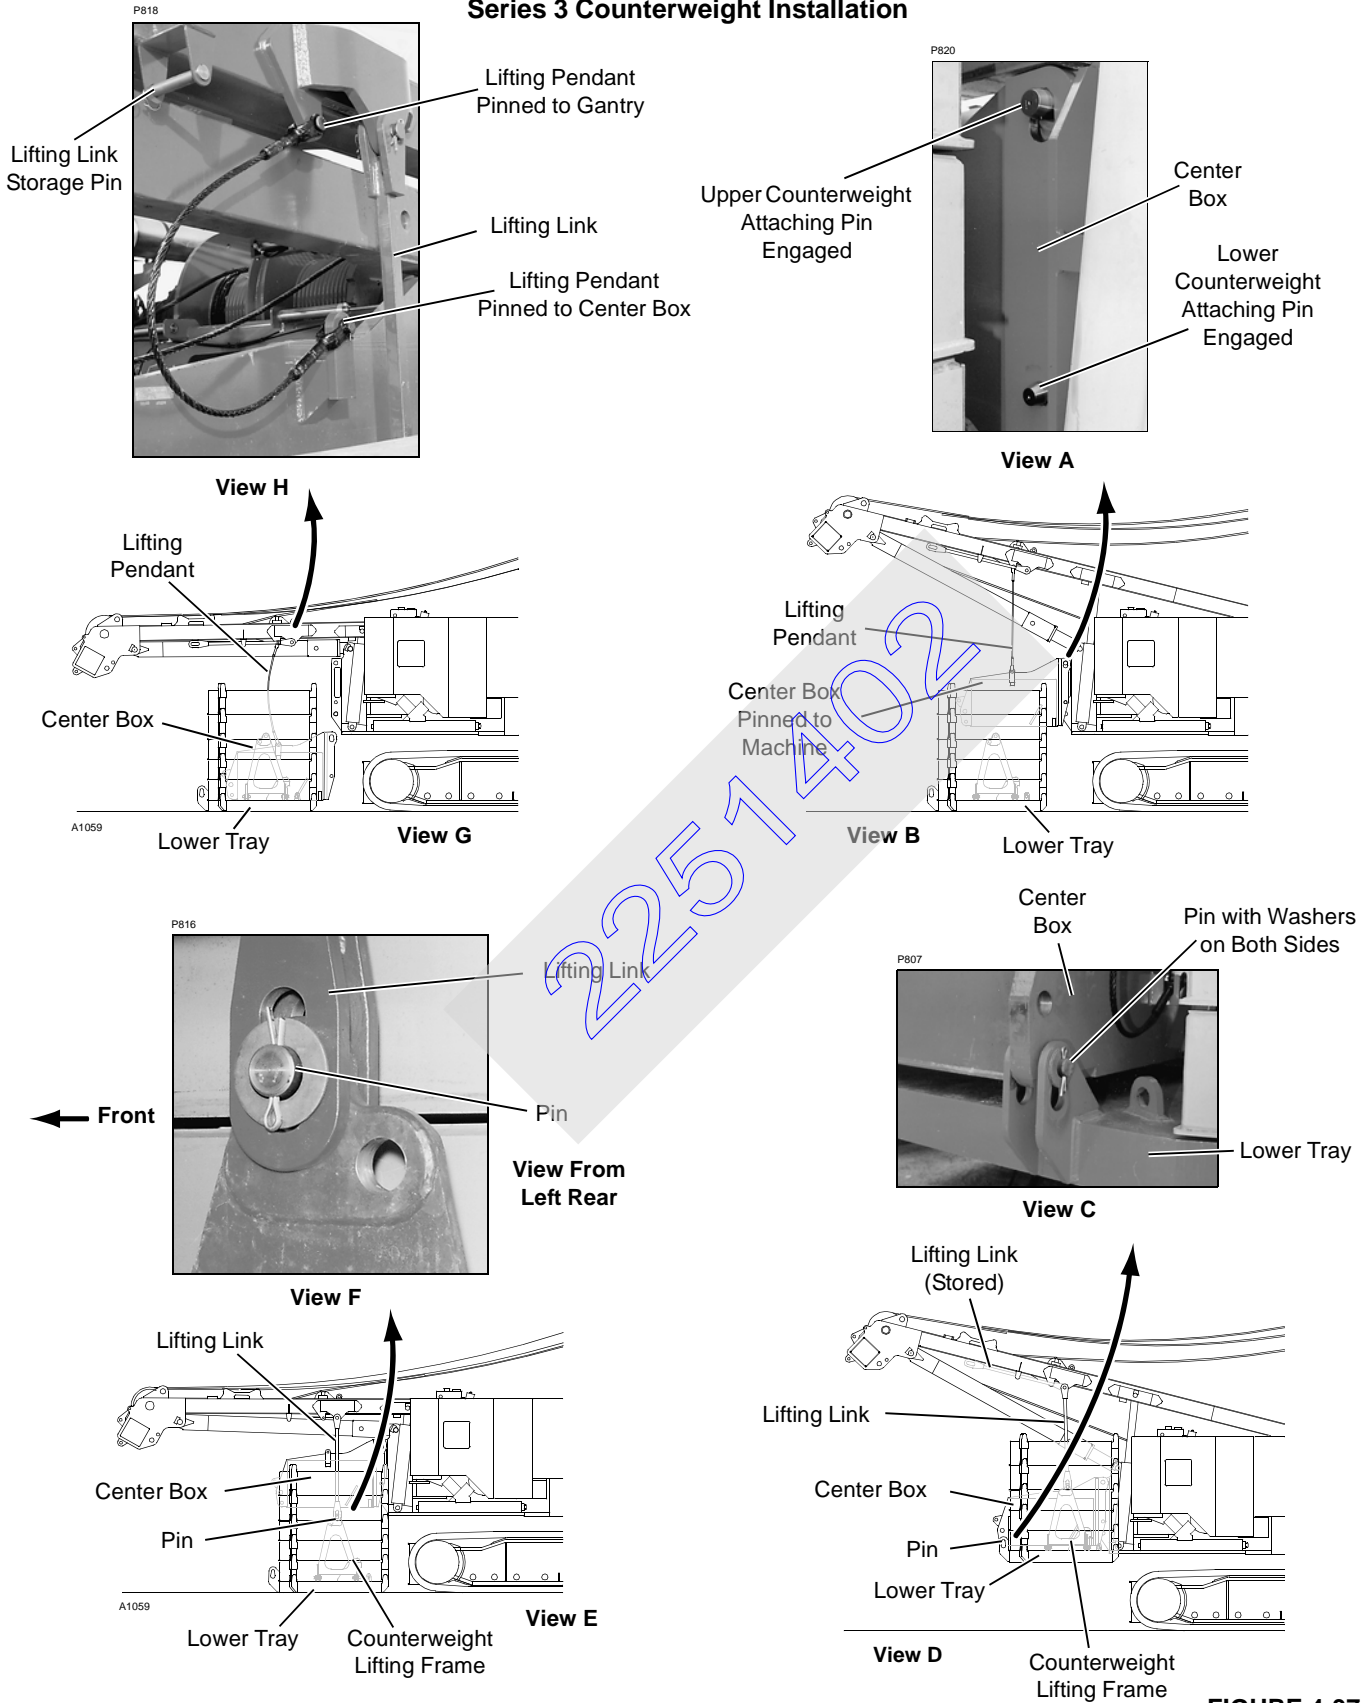

FIGURE 4-37
5. Disengage upper and lower counterweight attaching pins (Figure 4-37, View A) with switch on setup remote control. Switches for pins must be held in disengaged position until counterweight is in position.
2. Position crane so it is in line and centered with assembled counterweight (Figure 4-37, View G).
4. Lower lifting links from stored position (Figure 4-37, View H).
5. Attach lifting pendants (stored on the side of the center box) to lugs on gantry (Figure 4-37, View H).
6. Disengage upper and lower counterweight attaching pins (Figure 4-37, View A) with switch on setup remote control. Switches for pins must be held in disengaged position until counterweight is in position.
7. Raise gantry and center box with switch on setup remote control until gantry raising cylinders are fully extended (Figure 4-37, View B).
8. Engage upper counterweight attaching pins (Figure 4-37, View A). **Visually check that pins are engaged.**
10. Engage lower counterweight attaching pins (Figure 4-37, View A). **Visually check that pins are engaged.**
13. Travel machine so it is in line and centered with lifting frames on lower tray (Figure 4-37, View E).
14. Pin lifting links to front hole in lifting frame (Figure 4-37, View F).
15. Raise gantry and remaining counterweight assembly with switch on setup remote control until pin holes in lower tray line up with holes in center box. Install pins and washers (Figure 4-37, View C).
17. Unpin lifting links from lifting frame and store lifting links on gantry (Figure 4-37, View H).
2. Pin lifting links to counterweight lifting frames. Links must be pinned to front hole in lifting frame (Figure 4-37, View F).
4. Lower gantry until counterweight is on ground and lifting links are loose in slots. Unpin lifting links from lifting frames (Figure 4-37, View F).
5. Attach lifting pendants, stored on the side of the center box, to lugs on gantry (Figure 4-37, View H).
6. Disengage lower counterweight attaching pins (Figure 4-37, View A).
7. Raise gantry and center box until upper counterweight is supported by lifting links and upper attaching pins are loose in slots (Figure 4-37, View A).
8. Disengage upper attaching pins (Figure 4-37, View A).
11. Raise lifting links and store on gantry (Figure 4-37, View H).